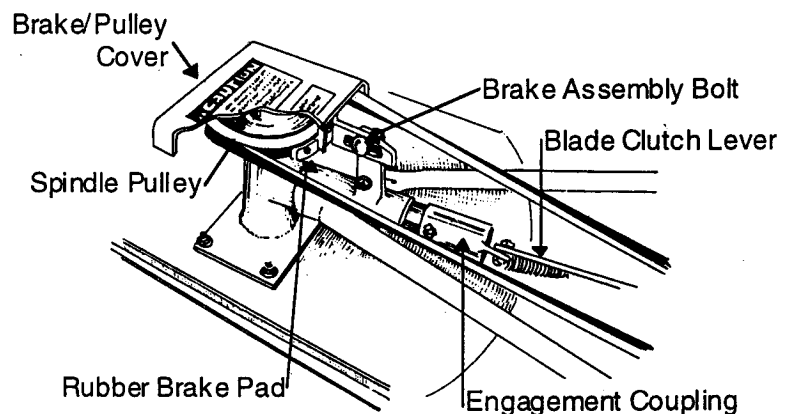

Figure 15
4. Lift the brake/pulley cover by loosening the self-locking nut and bolt (*Figure 15*).
5. Remove the old blade belt from the spindle pulley and engine pulley (*Figure 15*).
- To adjust the brake pulley cover: with the blade clutch lever pulled back to 2" from the engine pulley cover (when disengaged), loosen the brake assembly bolt and slide the brake assembly forward so that the semi-circular brake pad seats into the spindle pulley (*Figure 15*).